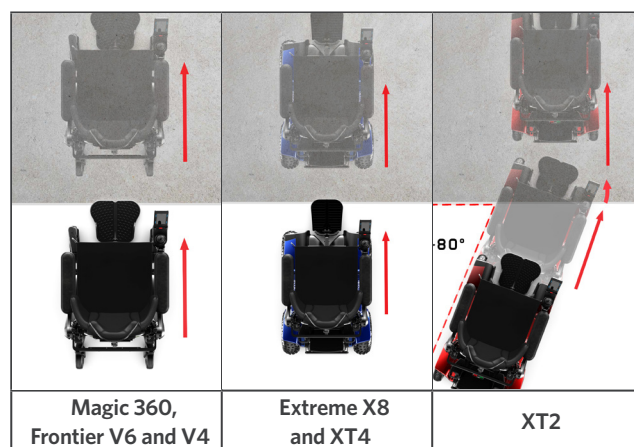

Figure 3.1 Approaching an obstacle
- Magic 360, Frontier V6 and V4, Extreme X8 and XT4: Always approach an obstacle so both front wheels touch the obstacle together (Figure 3.1)
- XT2 Approach the obstacle so both wheels touch the obstacle together or on a slight angle (Figure 3.1)